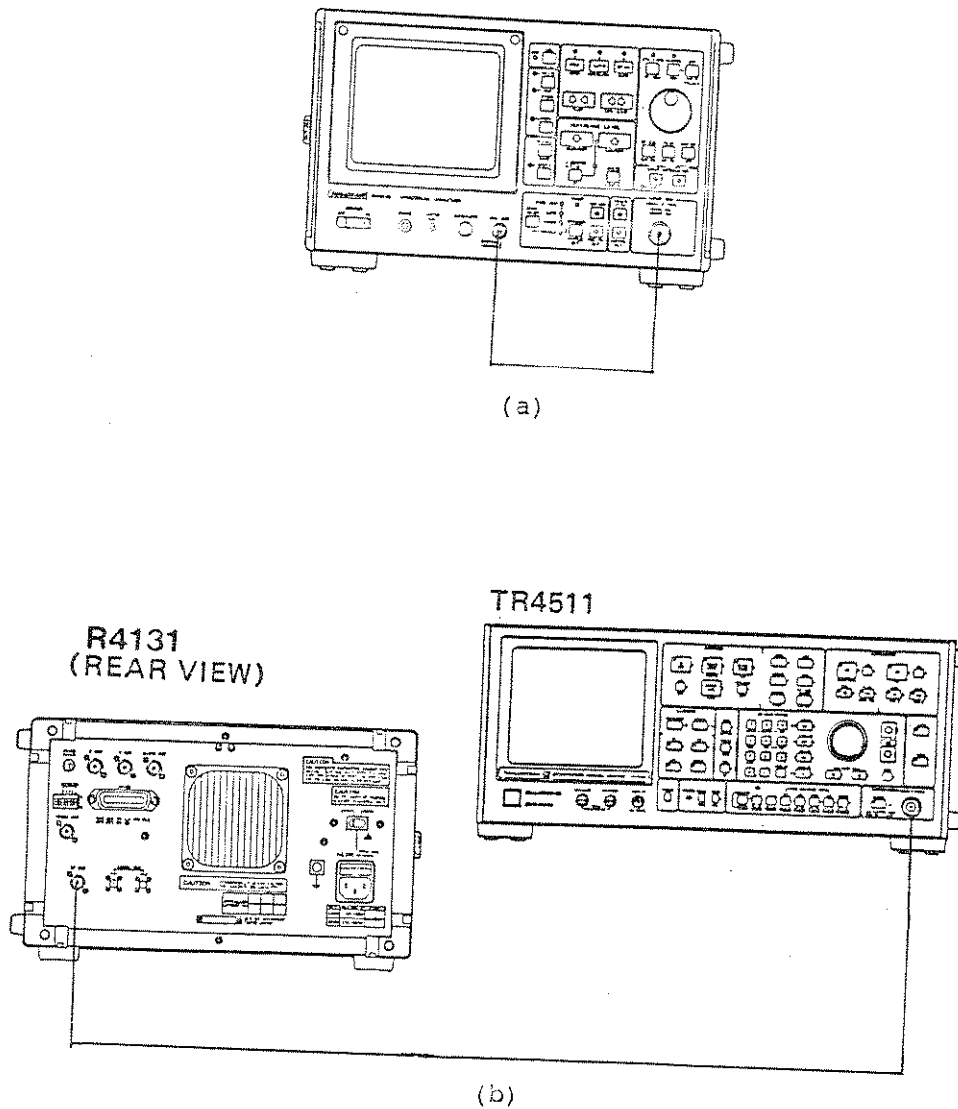

Figure 11-12 Resolution Bandwidth Accuracy Test Setup
(2) Procedure
- ① Connect the calibration signal of the spectrum analyzer to the INPUT connector as shown in Figure 11-12 (a).
- ⑧ In testing resolution bandwidths 3 kHz to 1 kHz, remove the top cover of the spectrum analyzer and apply 3.58 MHz, -20 dBm signals to the IF FILTER IN connector from the synthesized signal source. (See Figure 11-12 (b).)
- ⑨ Set the spectrum analyzer resolution bandwidth to 3 kHz and adjust the output frequency of the synthesized signal source for the maximum waveform peak by varying the output frequency at the 10 Hz place.
- ⑩ Adjust the output level of the synthesized signal synthesized source to bring the spectrum analyzer display level to 1.5 divisions above the horizontal axis in the center of the display screen.
- ⑪ Reduce the output frequency of the synthesized signal source until the waveform peak displayed on the display screen coincides with the horizontal axis in the center of the display screen. Record this output frequency as f_1 .
- ⑫ Next, increase the output frequency of the synthesized signal source until the waveform peak rises once above the horizontal axis in the center of the display screen, and then correspondingly falls. Record this output frequency as f_2 .
- ⑬ Determine the 3 dB bandwidth by calculating f_2 minus f_1 . Check that this value falls between 2.4 and 3.6 kHz (3 ± 0.6 kHz or less).
- ⑭ Test resolution bandwidths 1 kHz according to Table 11-5. Keep records of the resultant 3 dB resolution bandwidth values for use in the resolution bandwidth selectivity test described in Section 11.8.
- ④ Turn the AMPTD CAL control to bring the signal peak to the top graticule on the display screen.
- ⑤ Turn the TUNING dial to position the 60 dB point for the best reading.
- ⑥ Measure and record the 60 dB bandwidth. Check that the ratio of the 60 dB bandwidth to the 3 dB bandwidth measured in Section 11.7 is 15 or less.
- ⑦ Repeat steps ③ to ⑥ for resolution bandwidths of 300 kHz to 10 kHz as well.
- ⑧ Connect the output of the synthesized signal source to the spectrum analyzer IF FILTER IN connector as shown in Figure 11-12 (b).
- ⑨ Set the output frequency of the synthesized signal source to 3.58 MHz (CW), -20 dBm.
- ⑩ Adjust the output frequency of the synthesized signal source for a maximum reading on the R4131 display screen, and set the signal to be on the reference graticule.
- ⑪ Increase the output frequency of the synthesized signal source until the signal level is reduced 60 dB (6 graticules). Now measure and record this frequency as f1.
- ⑫ Reduce the output frequency of the synthesized signal source until the signal level is up 60 dB (6 graticules). Again, measure and record this frequency as f2.
- ⑬ Determine the 60 dB bandwidth by calculating f1 minus f2. Check that the following relation holds: 60 dB bandwidth/3 dB bandwidth \leq 15.
- ⑭ Repeat steps 10 to 13 for resolution bandwidth of 1 kHz.